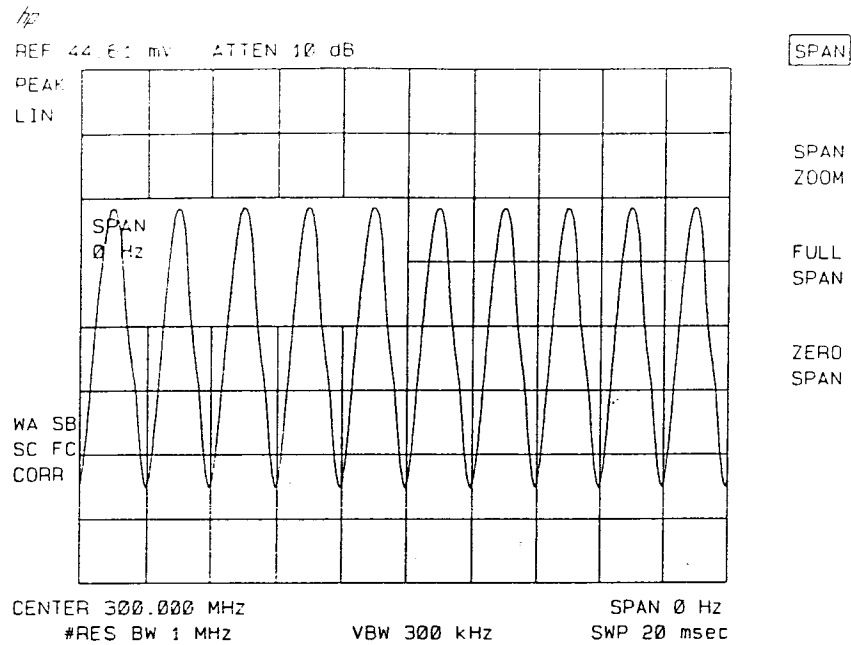

Figure 2-27. Measuring Modulation In Zero Span
5. To select zero span, either press **[SPAN], 0 [Hz]** or press **ZERO SPAN**. See Figure 2-27. If the modulation is a steady tone (for example, from a signal generator), use video trigger to trigger on the waveform and stabilize the display. Adjust the sweep time to change the horizontal scale.